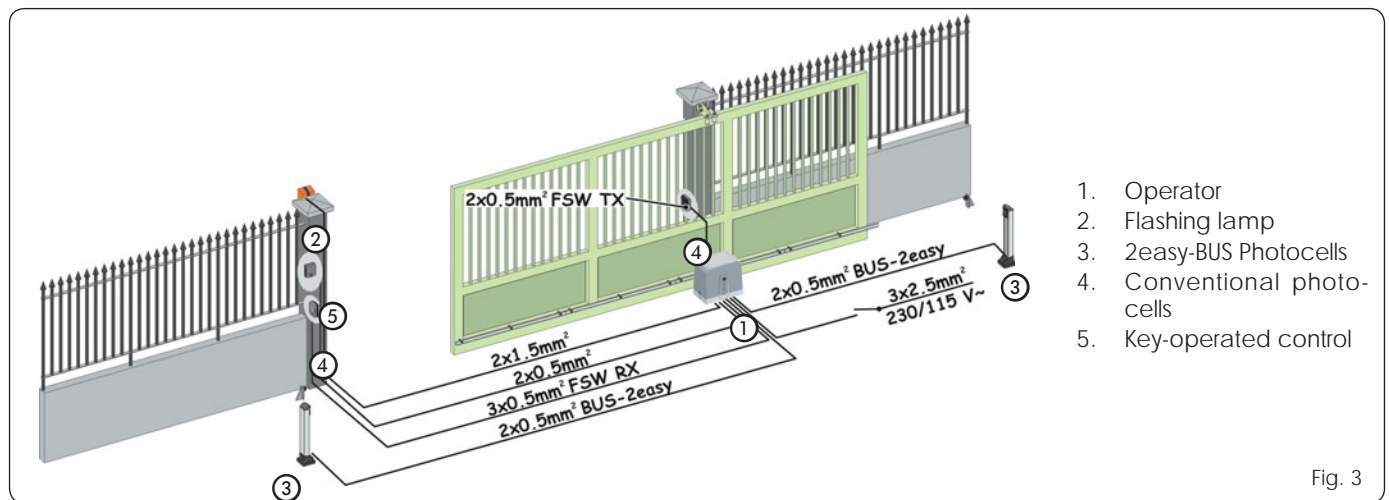

Fig. 3
4. Lay the electric cables for connection to the accessories and power supply as shown in Fig. 3.
- Follow the instructions in Fig. 3 to arrange the cables in the ducts and make the electrical connections with the selected accessories.